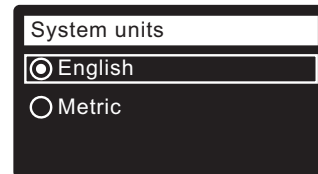

FIG. 20
- SYSTEM UNITS** If the desired system already has a dot next to it (See Figure 20), go to Step 18. Otherwise, press the DOWN (▼) or UP (▲) buttons to scroll to the desired system, then press the SELECT (O) button to choose it.
- Press the SELECT (O) button.